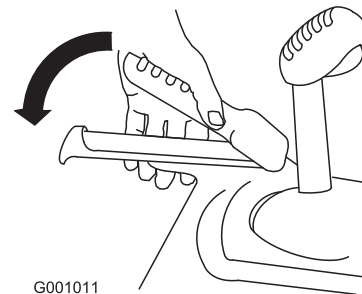

Figure 28
1. To engage the traction drive, squeeze the left (traction) lever to the handgrip (Figure 28).